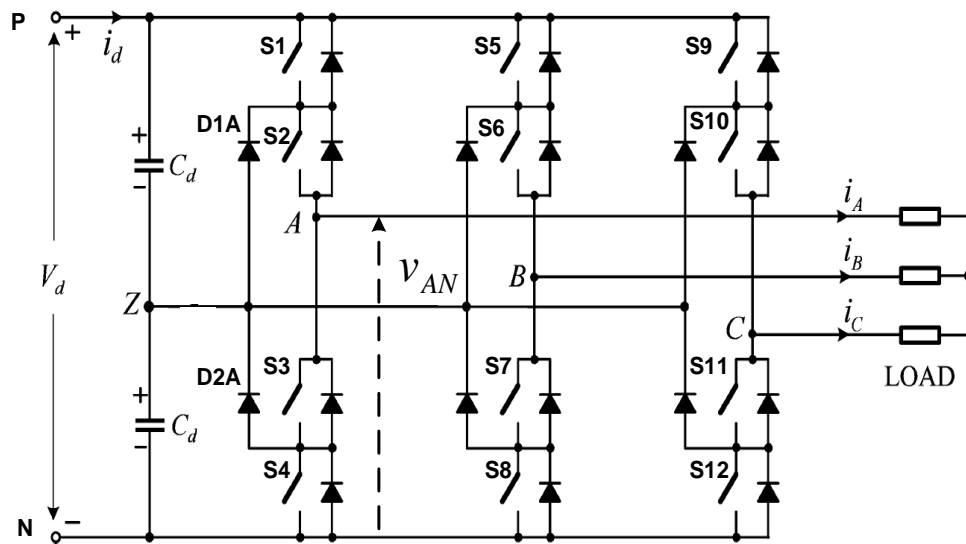
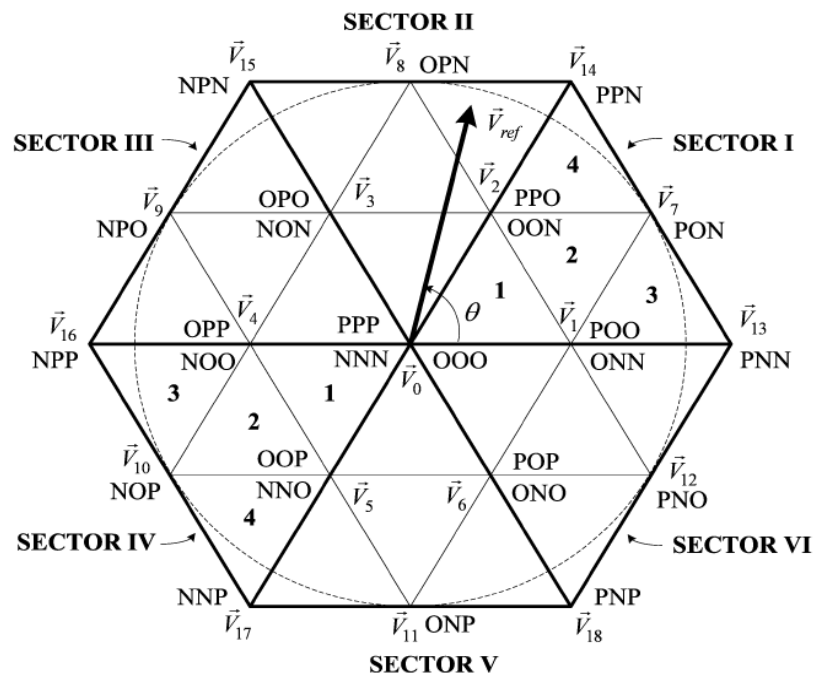

Figure 6.1 Neutral point clamped Voltage Source Inverter
Figure 6.2 Space vector diagram
6. a. The inverter shown in figure 6.1 is modulated by Space Vector Modulation. The reference vector \vec{V}_{ref} of the inverter is in Sector II as shown in figure 6.2. The sampling frequency is 10 kHz. The reference vector is at the position $\theta = 70^\circ$. The position of the subsequent reference vector is 73.6° . Calculate the fundamental frequency of the output voltage and explain your solution. (4)
- b. For the case in a) and with respect to suitable circuit diagrams explain the effect of switching states on neutral-point voltage v_{ZN} . (4)
- c. For the case in a) and for the switching combination [PON], draw the equivalent circuit diagram and calculate the amplitude and position of the corresponding static space vector based on the general space vector form given by (6.1). (4)
- d. For the case in a) and with respect to suitable circuit diagrams explain switching states (S1=off, S4=off, S2=on, S3=on) and (S1=on, S4=on, S2=off, S3=off) with respect to voltage v_{AN} and the direction of load current i_A . (4)
(figure 6.2 overleaf)